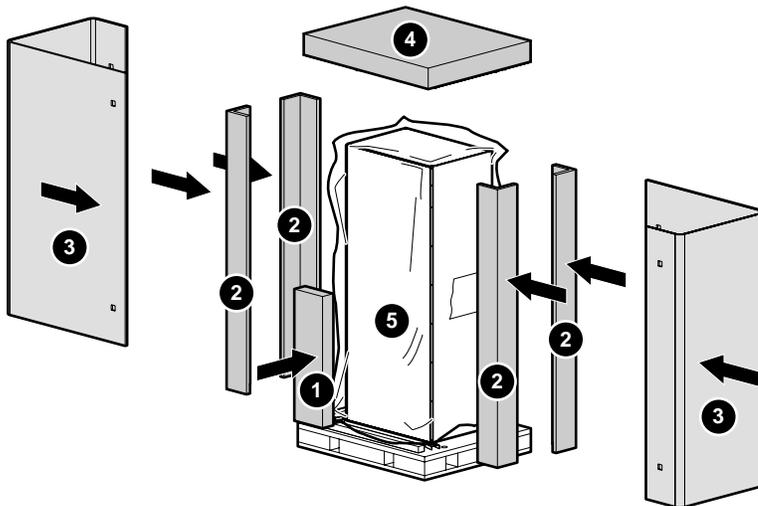

Figure 2: Compaq rack on shock pallet
- Figure 2 shows the normal packaging material that is shipped with the empty rack as it arrives at the customer configuration site.